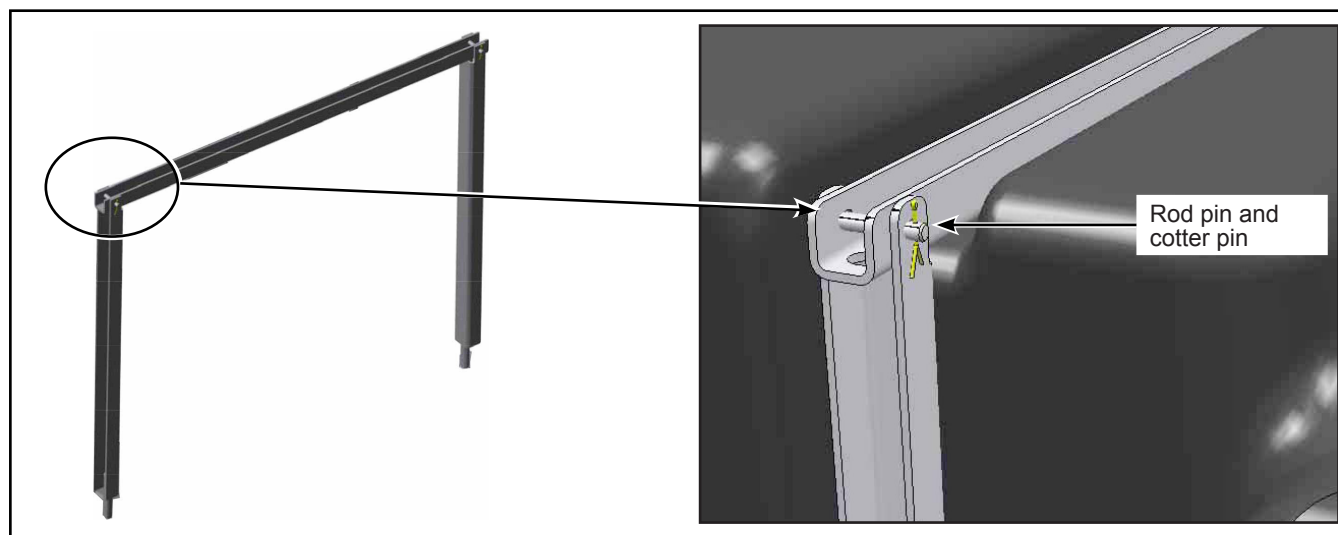

Figure 4 - Cotter Pin Assembly
- 1.7. Use N75857 rod pins and N75858 cotter pins to affix each N75714 U-channel with rod to the center U-channel. See Figure 4.